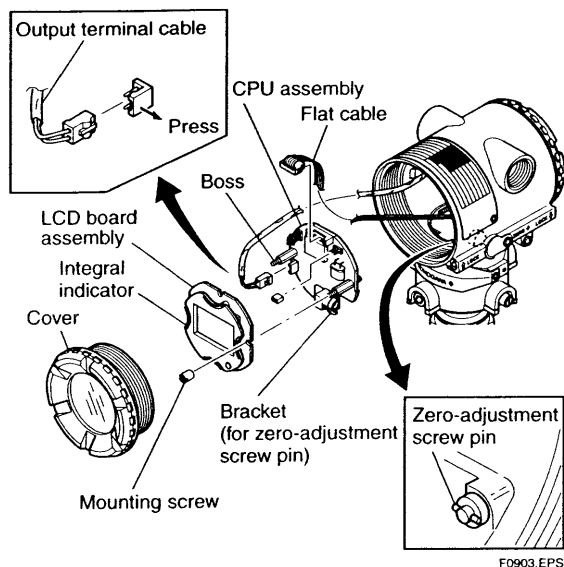

Figure 9.4.1 Removing and Attaching LCD Board Assembly and CPU Assembly
This subsection describes the procedure for replacing an integral indicator. (See Figure 9.4.1)
This subsection describes the procedure for replacing the CPU assembly. (See Figure 9.4.1)
- 2) Turn the zero-adjustment screw to the position (where the screw head slot is horizontal) as shown in Figure 9.4.1.